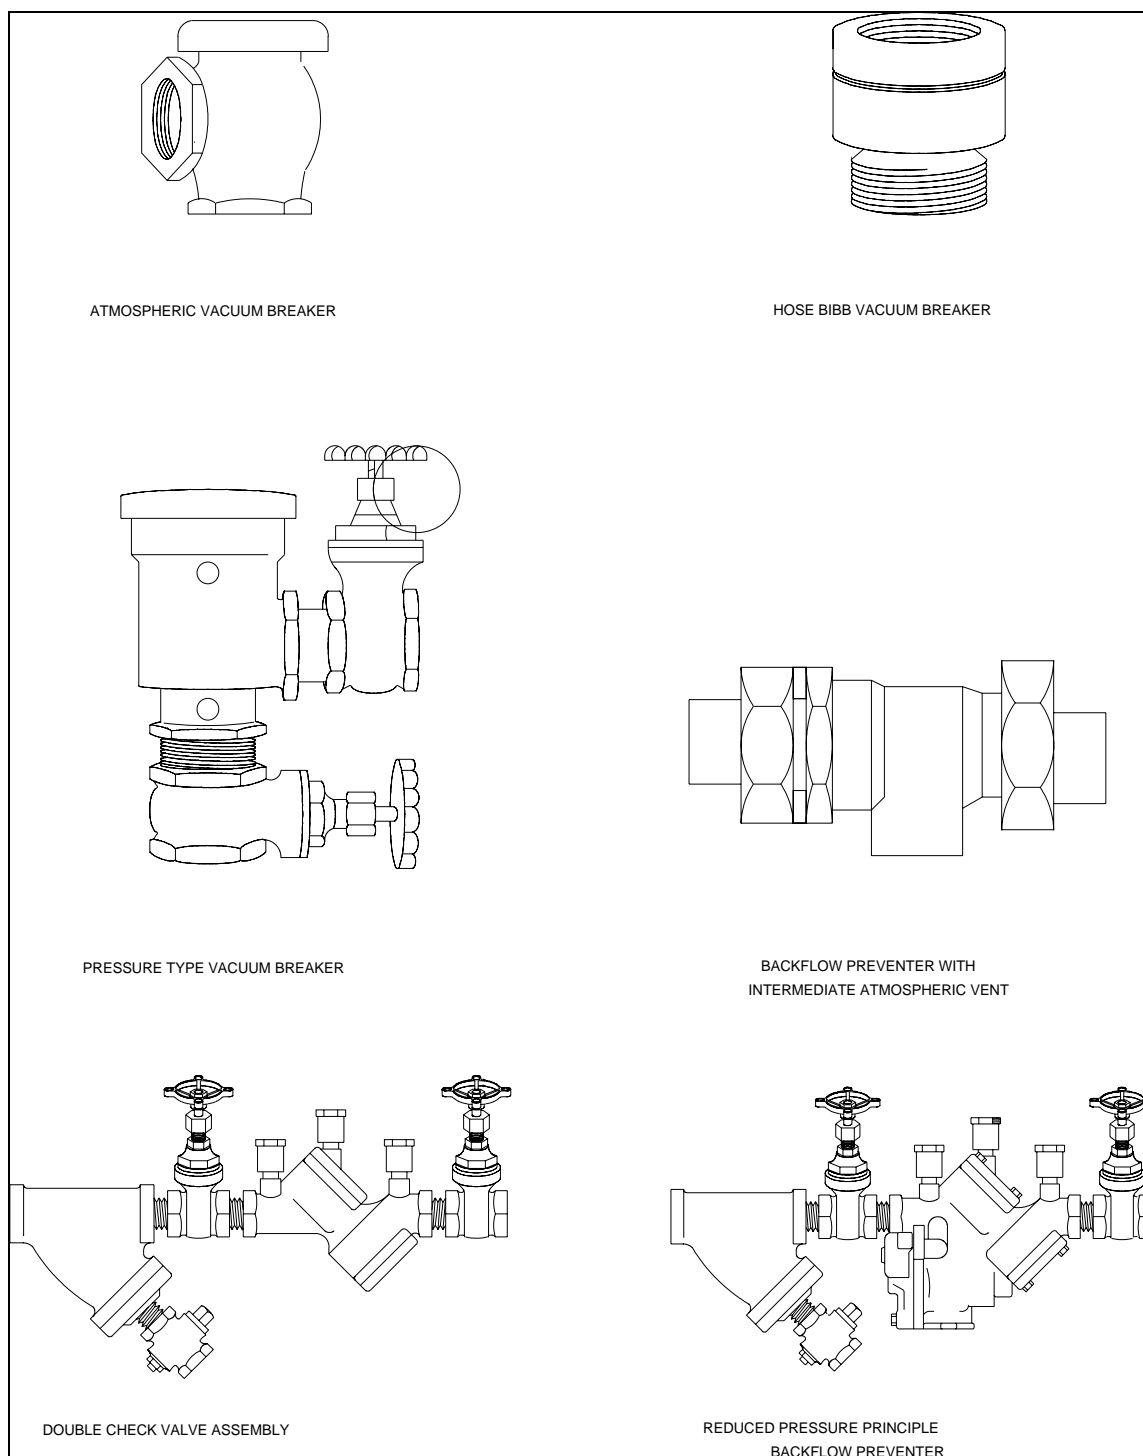

Figure 17-6. Backflow preventers
d. Backflow preventers. Backflow preventers are devices used to prevent the contamination of the domestic (potable) water system. Backflow preventers can be classified into four basic types, with the proper application of each type dependent upon the piping arrangement and the degree of hazard involved. The basic types of backflow preventers are illustrated on figure 17-6.